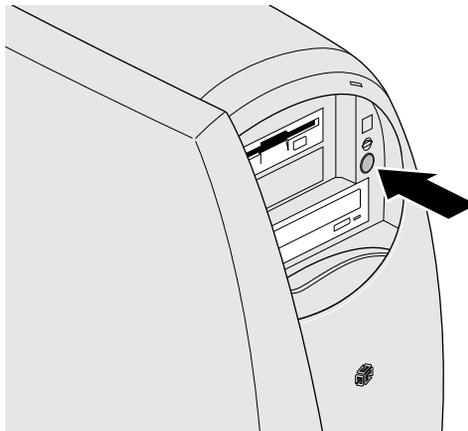

Figure 1-11 Turning on the System
3. Press the power button, shown in Figure 1-11.
4. Press the power button (Figure 1-11). The system turns off.